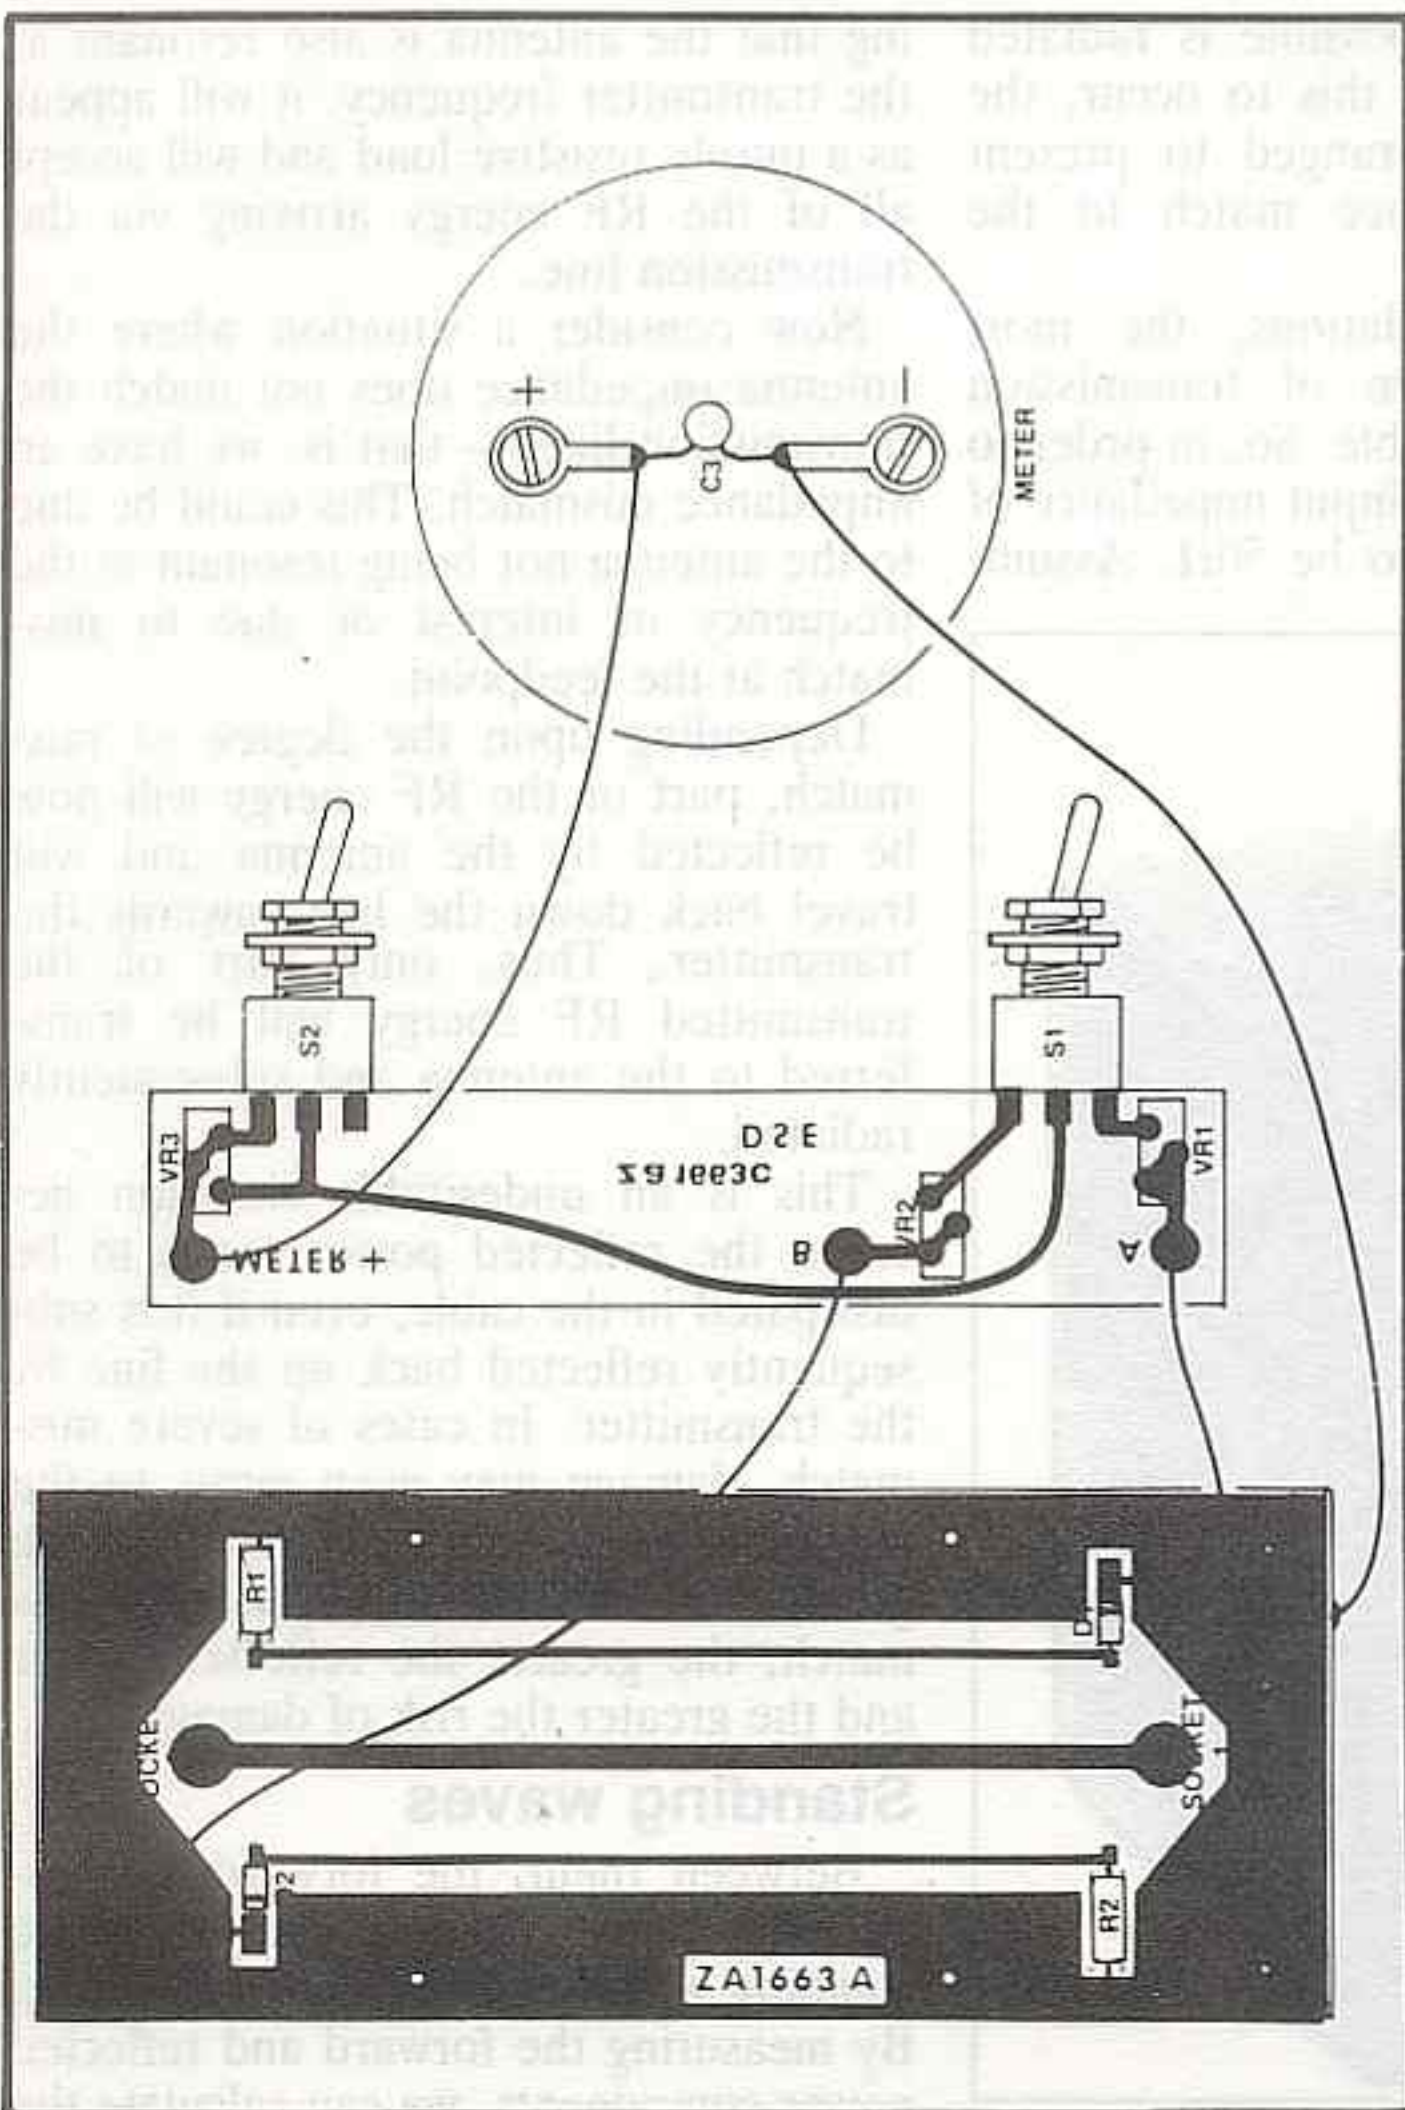

Fig.4: parts layout and wiring diagram for the VHF Wattmeter.
The remaining component, capacitor C3 (.001µF), is soldered directly across the meter terminals. Install the capacitor as shown in Fig. 4, together with two 70mm-long flying leads.
(5). Mount the meter and solder the flying leads to the switch PCB and tinplate shield as shown in Fig.4.